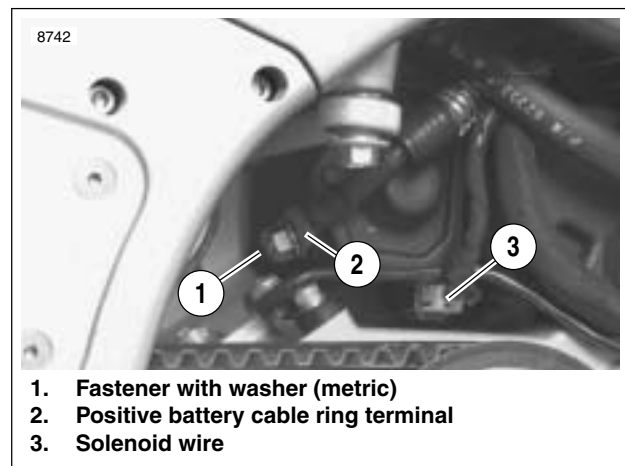

Figure 5-9. Starter Wires (Protective Boot Not Shown)
6. See Figure 5-9. Remove fastener with washer (1) (metric).
- b. Remove positive battery cable ring terminal (2).
- c. Detach solenoid wire (3).